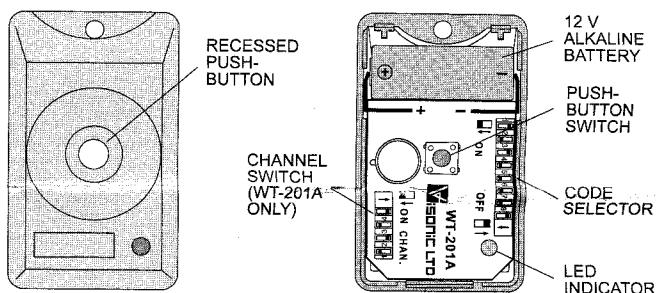

Figure 1. WT-201 with Cover Removed
- (2) Insert the 12-volt alkaline battery (Duracell MN-21 or Golden Power GP-23A or equivalent) between the battery clips, so that the (+) and (-) markings on the battery coincide with the markings near each battery clip - see Figure 1. Check that the battery is held securely by the battery clips.
- (3) Gently press the pushbutton switch and verify that the LED lights, indicating good battery condition.
- (4) Carefully engage the ridges at the top end of the rear cover with the dents at the top end of the front cover. Gently press together the bottom ends of both covers, until they snap shut.